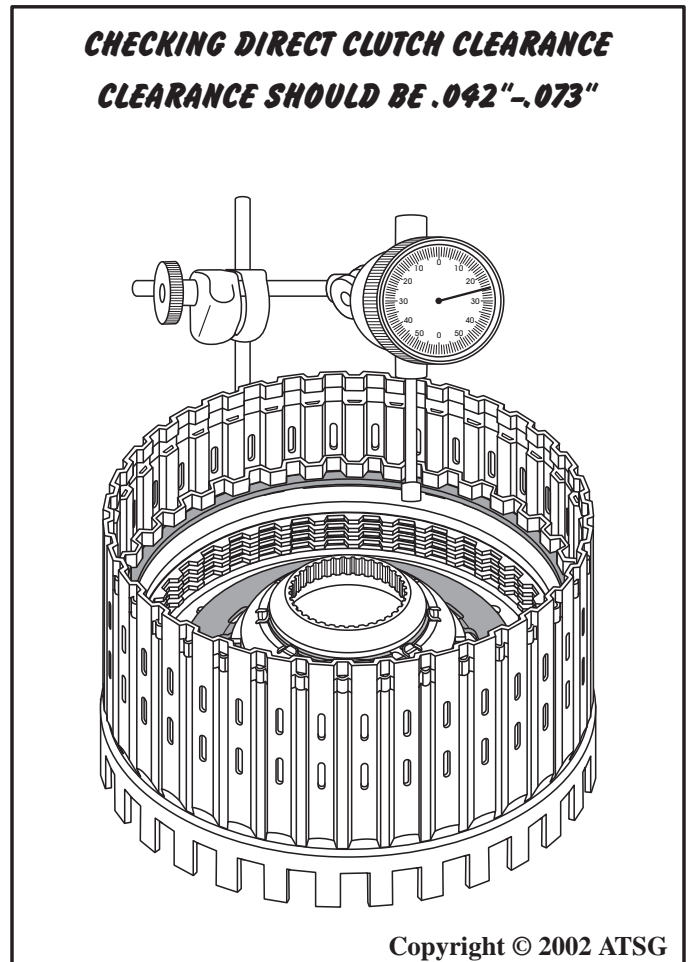

Figure 80
18. Install dial indicator on top of the direct clutch backing plate, as shown in Figure 80, and zero the dial indicator.